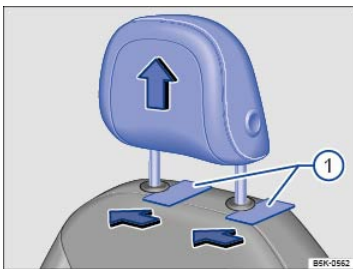

Fig. 46 Removing the front head restraints.
- Slide a flat object, such as a plastic credit card, underneath the right side of the cap (left side if sitting behind the head restraint) on the right-hand seat guide rod ⇒ Fig. 46① to unlock the head restraint.
- Push the head restraint down ⇒ Fig. 46.